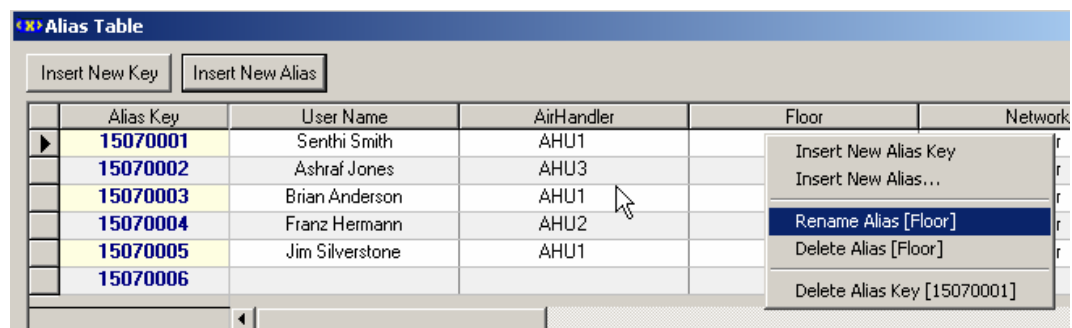

Figure 9.24. Renaming an Alias
1. Right-click an alias and select **Rename Alias** from the pop-up menu, as shown in **Figure 9.24**.